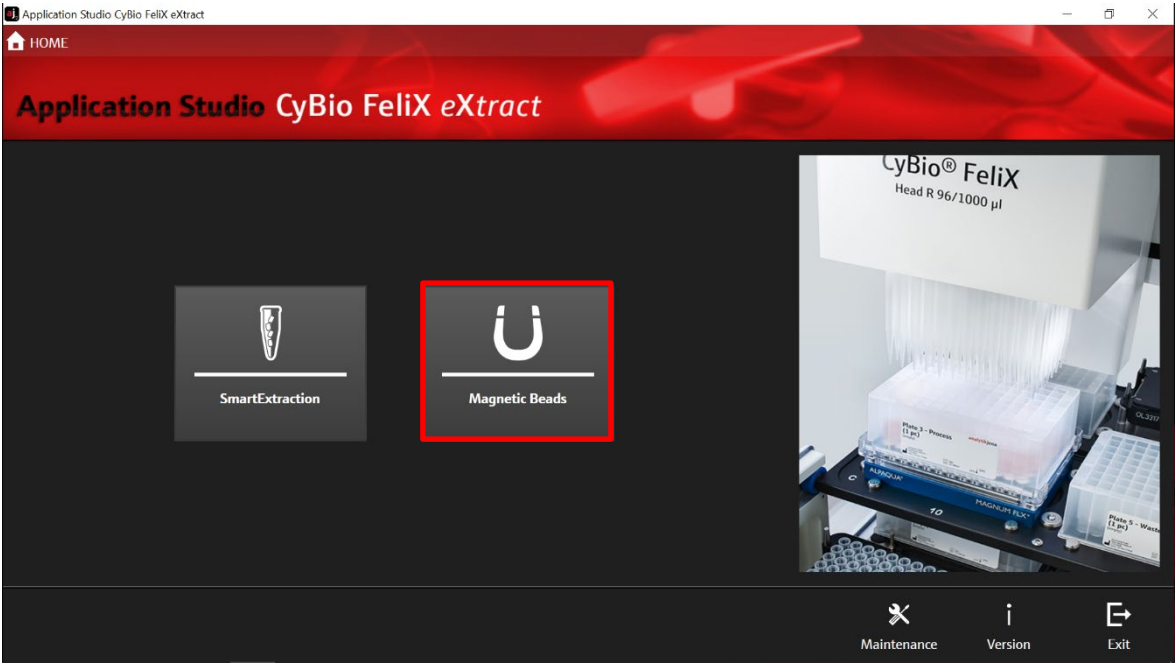

Figure 12: Selection of the Magnetic Beads Protocol.
3. Select “Magnetic Beads” (\rightarrow see Figure 12).